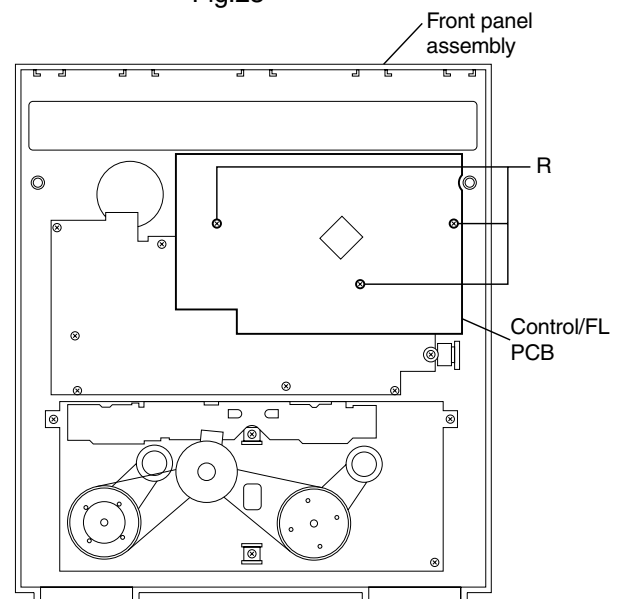

Fig.24
■ Removing the control/FL PCB (See Fig.24)
■ Removing the switch PCB and ACTIVE BASS EX. switch PCB (See Fig.24 to 27)